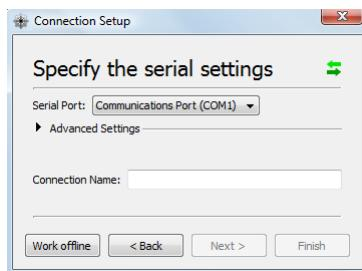
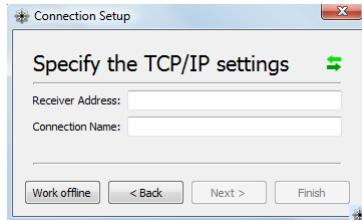
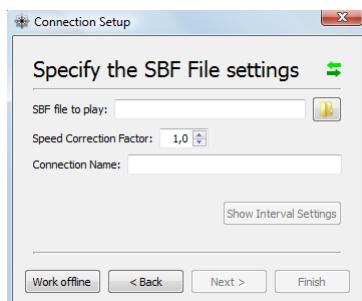

Figure 2-4: Create Serial Connection dialog
Figure 2-5: Create TCP/IP Connection dialog
Figure 2-6: Create SBF File Connection dialog
5. A dialog window (see Figure 2-4 on page 22) to select the communication port will be shown (by default the serial port settings are not shown and are correctly filled in for the default receiver settings). If the Septentrio Receiver is connected to your PC's COM2 port, change the Serial Port to COM2.
Connecting over a Local Area Network (LAN) or over the Internet using a TCP/IP socket is much simpler than via a serial port. All you need to provide in this case is the hostname or the IP address of your Septentrio Receiver (see Figure 2-5 on page 22).
At first use of RxControl, the user has to create a new serial, TCP/IP or SBF file replay connection and RxControl does not present the Use Last Connection option in the Change Connection dialog. Creating a new serial, TCP/IP or SBF file replay connection is done by selecting the Create New option in the corresponding drop-down list. The Finish button will become grayed out and the Next > will become available indicating that the user has to enter additional information. Pressing the Next > button pops up a Create a new Serial connection (see Figure 2-4 on the following page), a Create a new TCP/IP connection dialog (see Figure 2-5 on the next page) or a Create a new SBF file connection dialog (see Figure 2-6 on the following page).